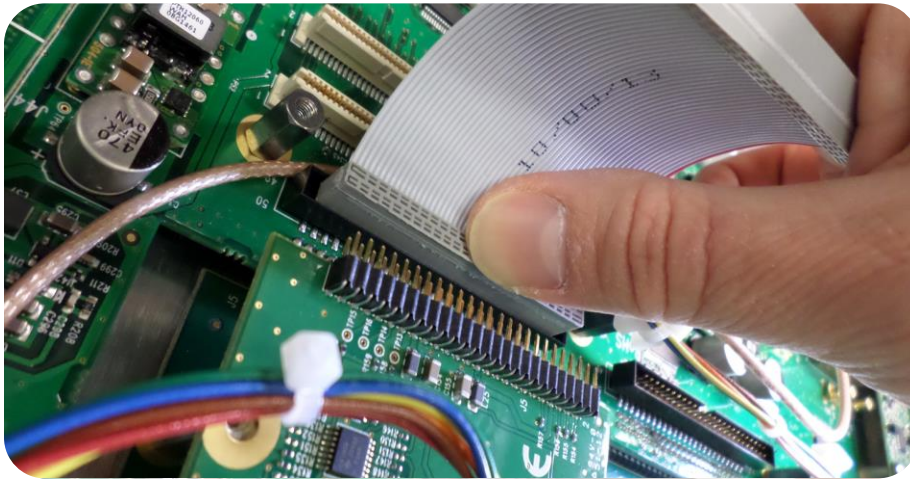

Figure 7: Ribbon cable installation
- (g) Take the supplied 50-pin ribbon cable and carefully press it into the connector on the mainboard (lining up the red sided end of the cable with **PIN 1** on the mainboard), then into the connector on the option card (see Figure 7 next page).